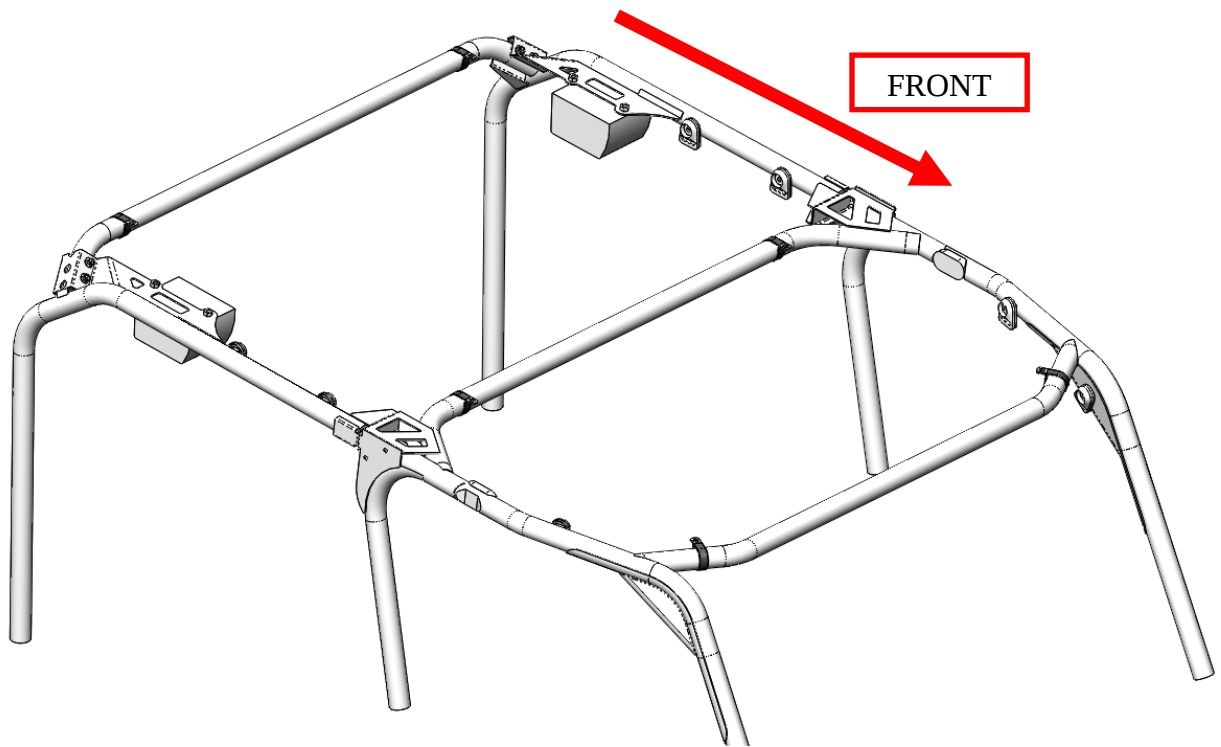

Figure 5: Approximate clamp locations cage shown.
2. Spread the clamps by hand and slide them over the cage tubing. Place them on the cage in the approximate locations shown in Figure 5. Note the orientation of the clamp tab. It must line up with the hole, flat against the top, on the correct side of the tubing.